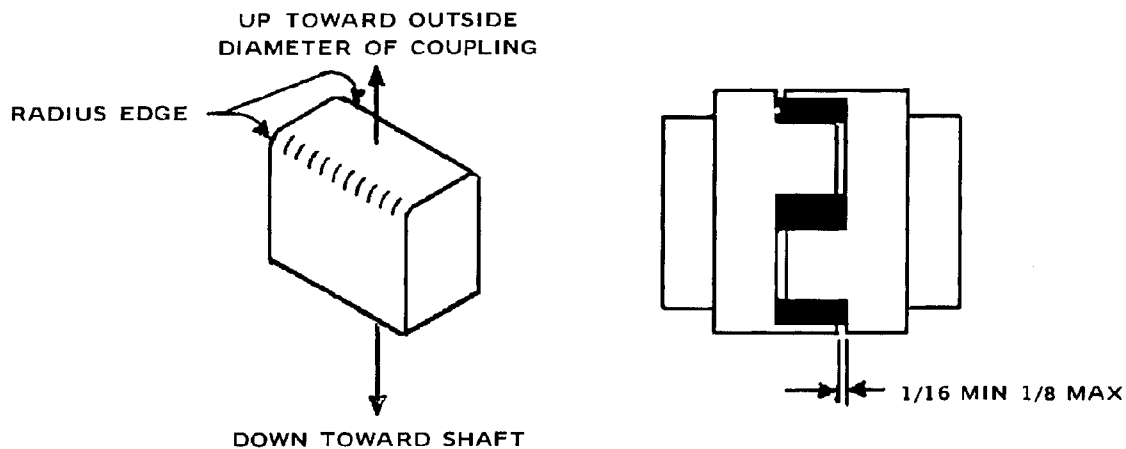

FIGURE 7-1 - INSTALLATION OF COUPLING CUSHIONS
3. Working through coverplate opening, center coupling over gap between shafts, maintaining gap as shown in Figure 7-1 between the ends of the jaws on one coupling body and the flange on the opposite coupling body. Tighten set screws in each coupling body.
4. Insert individual cushions as shown in Figure 7-1 and slide collar over cushions and secure with cap screws. Reinstall the cover plate.